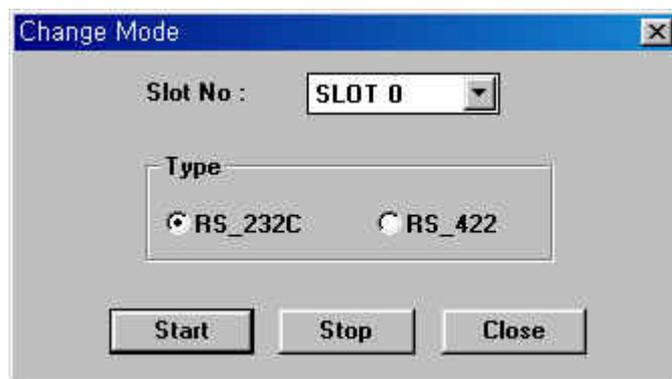

Fig. 6.18 Change operation mode of Cnet module
- ⑥ After downloading is completed, switch the Cnet module to RUN mode by choosing **Online – Change Comm.** in menu as following figure 6.18